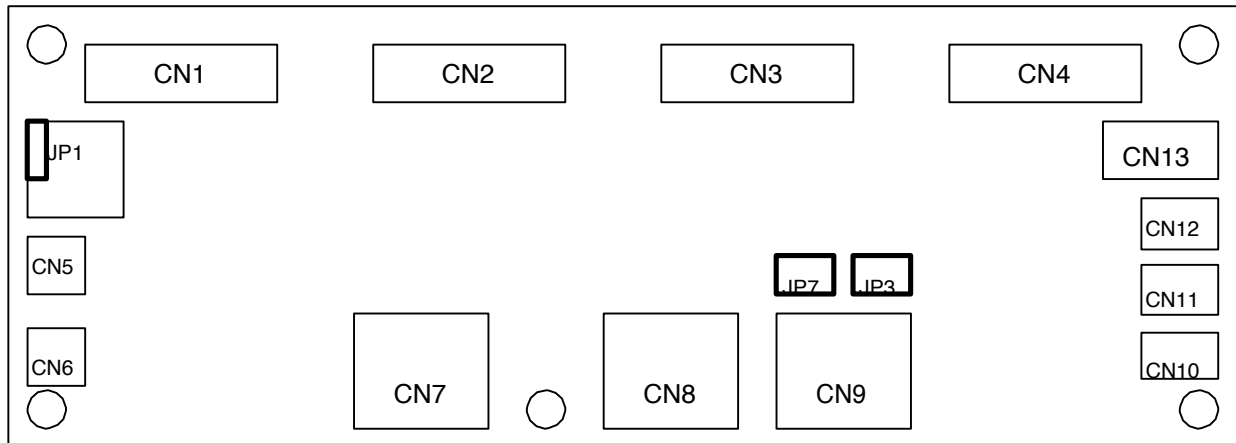

Figure 2: Connector layout
- Figure 2: Connector layout 6